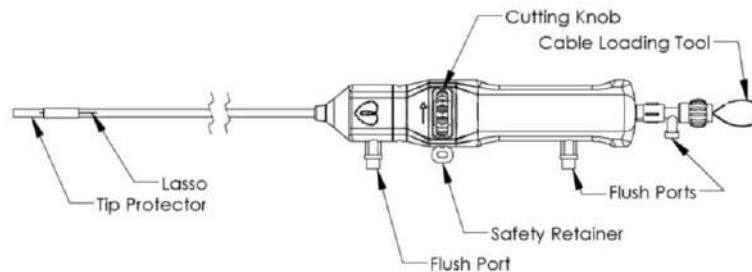

Figure 7. Cut Catheter
- Cut Catheter** – a catheter that tracks over the Cable within the Guide to the Lock, enabling final cutting of the excess portion of the Cable proximal to the Lock. See Figure 7.